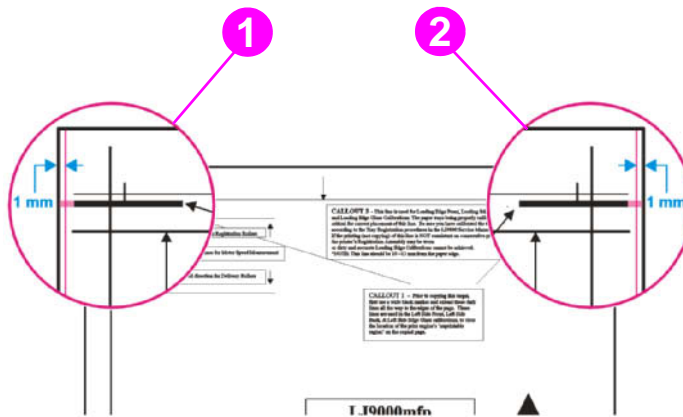

Figure 197. Left side front calibration (2 of 4)
- 4 On the calibration target page, extend the wide line on the top, left corner and the wide line on the top, right corner to the edge of the paper. See figure 197.